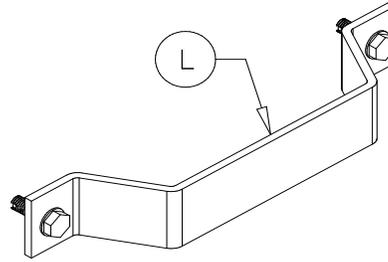

Figure 17
**Note:** The pivot arm guides (L) (see Figure 17) prevent the tarp from shifting to either side of the box when the tarp is in closed position.